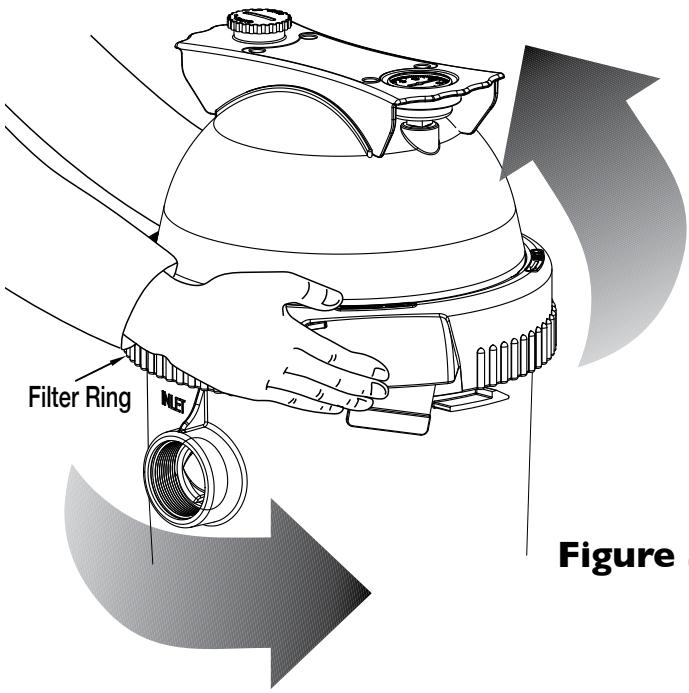

Figure 3
1. Securely lock the filter ring in place by rotating it CLOCKWISE until it "clicks" past the safety latch (see Figure 3). Stop turning as soon as the ring clicks past the latch. The ring may feel slightly loose, but it will tighten up when the pump is on and the filter is under pressure.
- C. Rotate the filter ring clockwise until it locks behind the safety latch (see Figure 3).
- A. Press the safety latch (below the ring) toward the tank to release it (see Figure 3).